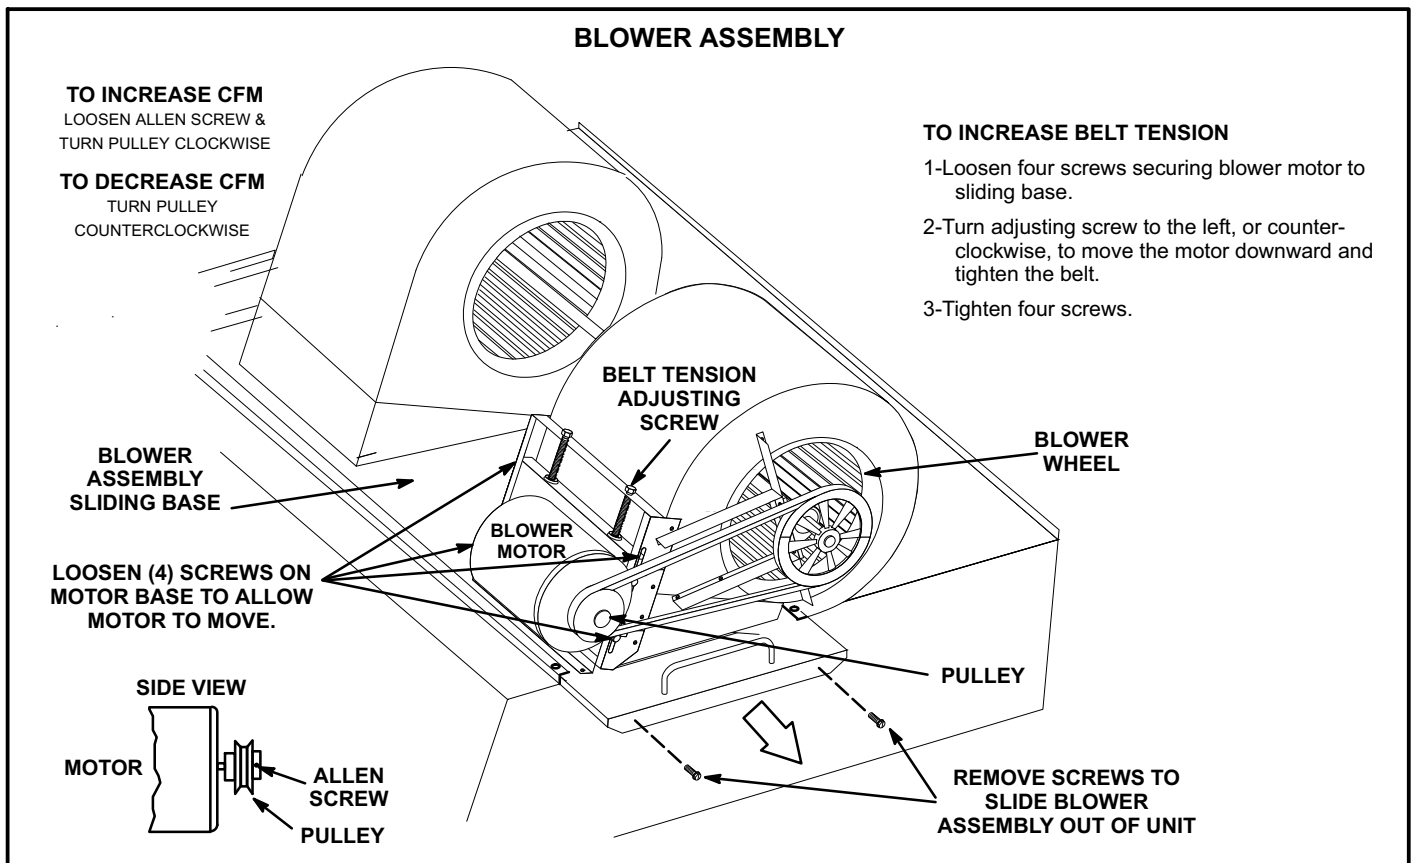

FIGURE 8
The blower compartment in KCB180-300S units is located between the evaporator coil and the compressor / control section on the opposite side of the condenser coil. The blower assembly is accessed by removing the screws on either side of the sliding base. The base pulls out as shown in figure 8.
The blower assembly is secured to a sliding base which allows the entire assembly to be pulled out of the unit. See figure 8.
- 5- The RPM can be adjusted at the motor pulley. Loosen Allen screw and turn adjustable pulley clockwise to increase RPM. Turn counterclockwise to decrease RPM. See figure 8.
- 1- Loosen four bolts securing motor base to mounting frame. See figure 8.